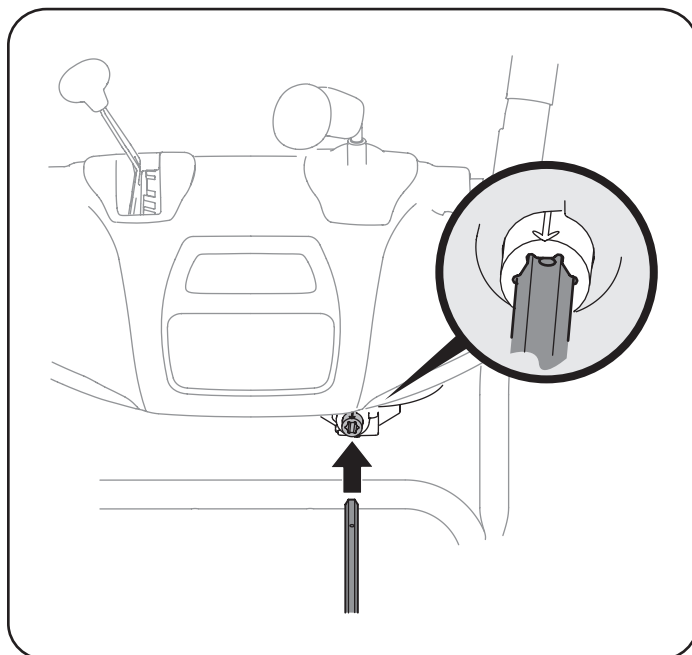

Figure 9
8. Make sure all cables are routed to the left of the chute control rod. Line up the hole in the rod with the arrow on the input shaft and insert the rod into the input shaft below joystick on handle panel. See Figure 9.